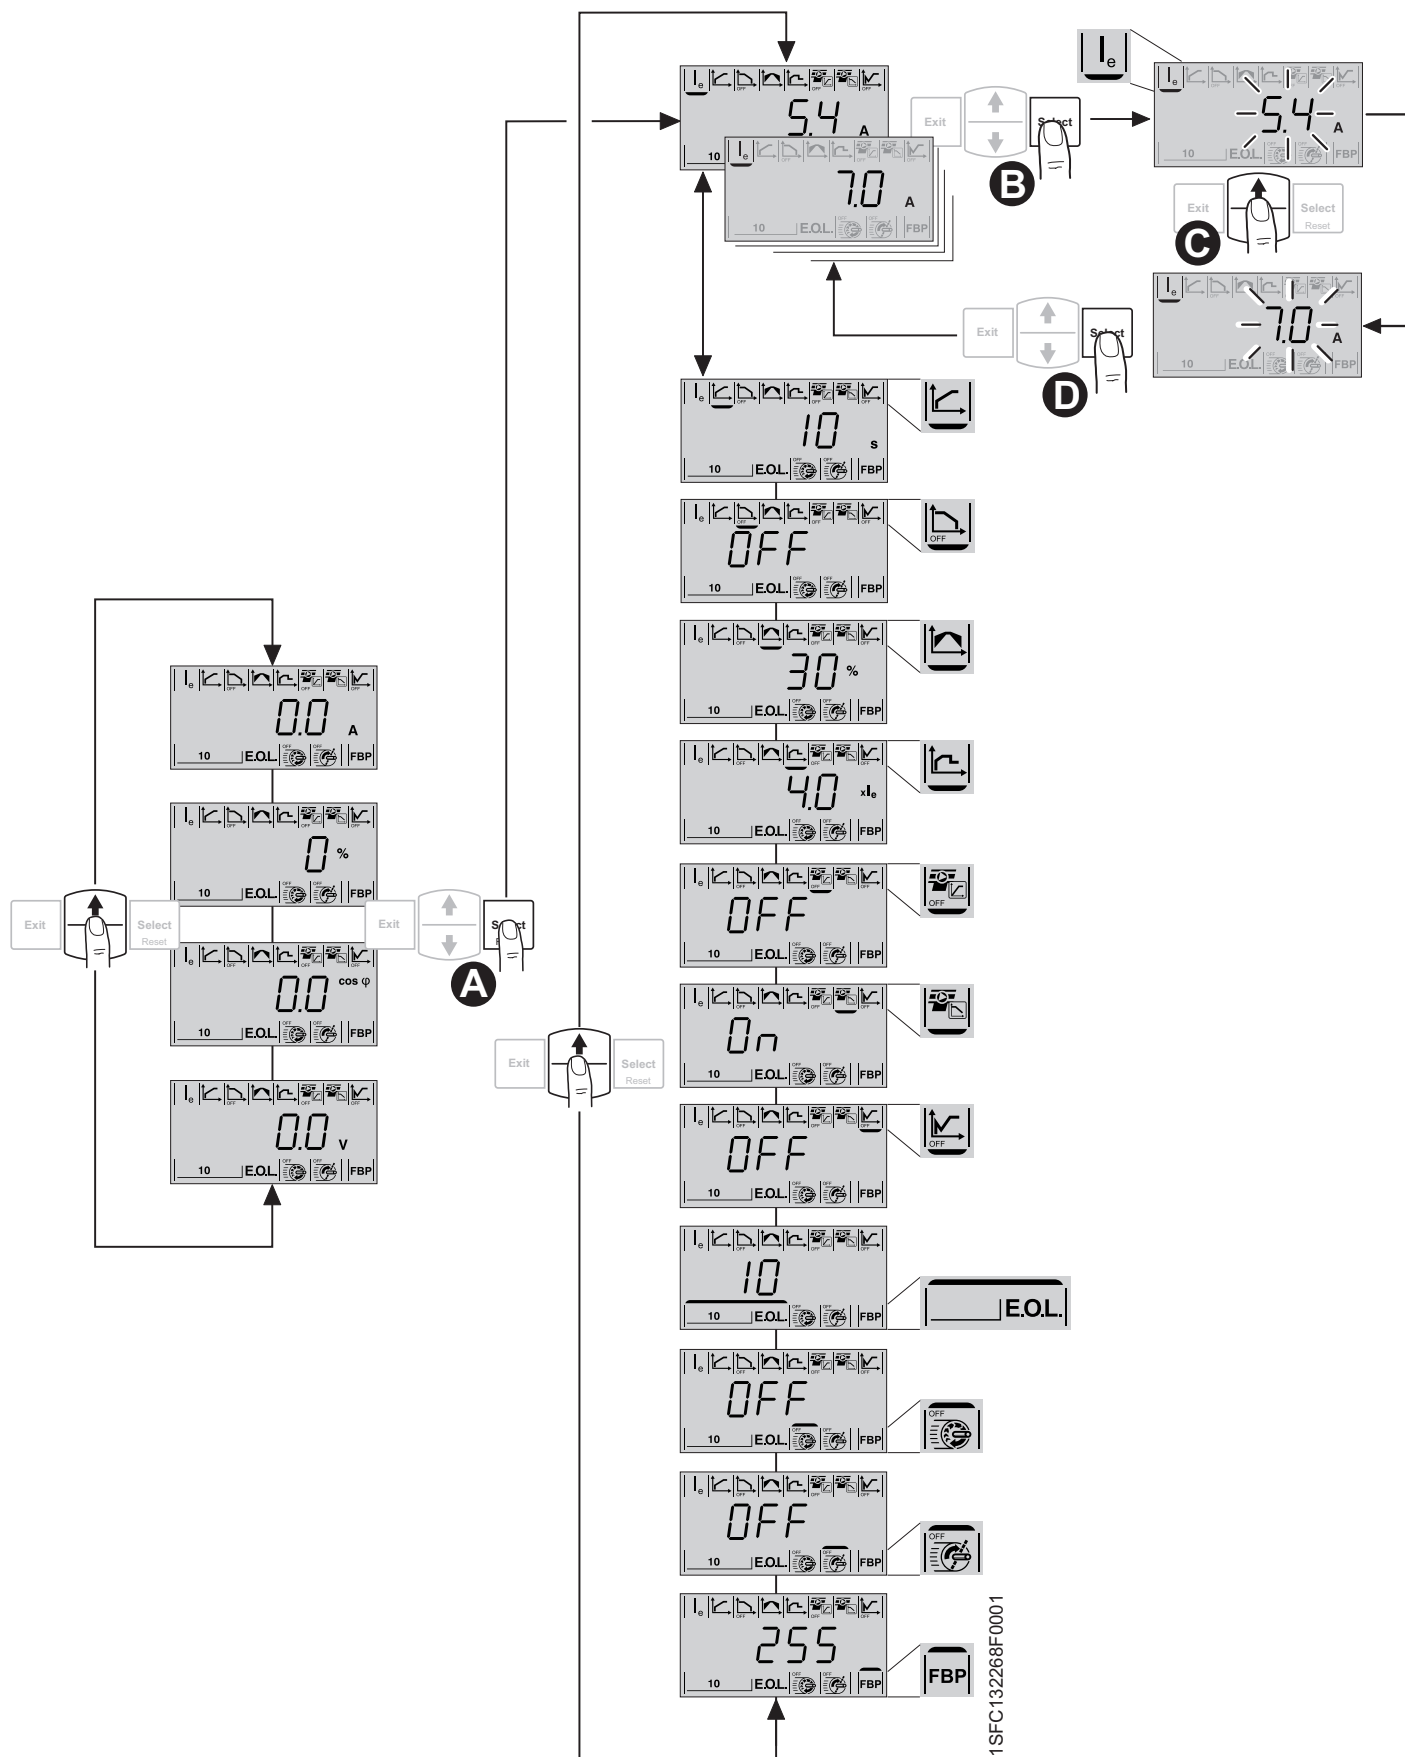

Figure 6.10: Navigating the menu
3. Press the Select key to Enter the Settings level. See **A** in figure 6.10. A cursor is marking the accessible parameter, in this case Rated Current I_e .
4. Press Select key again to enable editing of the parameter Rated Current. See **B** in figure 6.10. A flashing value on the middle row indicates that the parameter is available for scrolling and for selection.
5. Increase or decrease the value by pressing Navigation key repeatedly. Holding the key down will speed up the scrolling. See **C** in figure 6.10.
6. When the rated current of the motor is reached, press the Select key again to save. See **D** in figure 6.10.